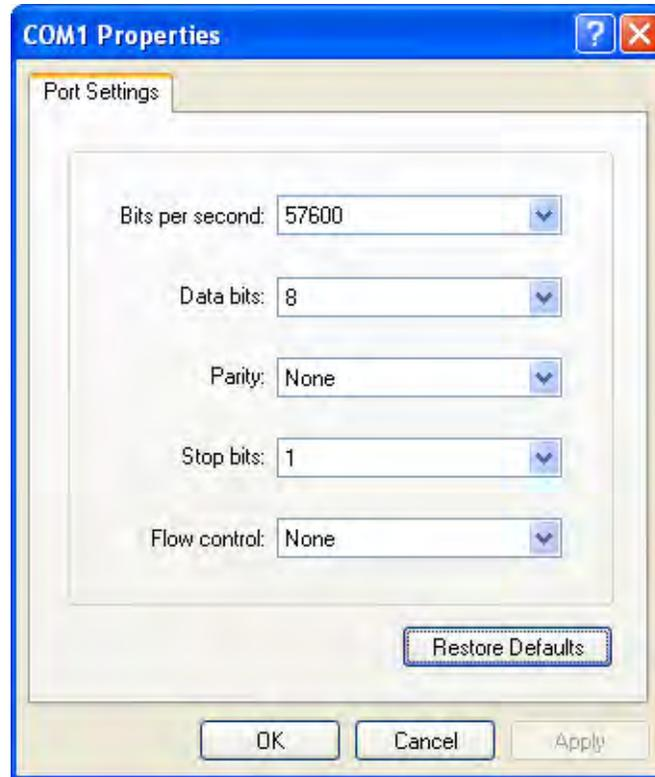

Figure 8. HyperTerminal Settings
2. On the PC, open the HyperTerminal emulation program and configure it to reflect the settings shown in Figure 8.